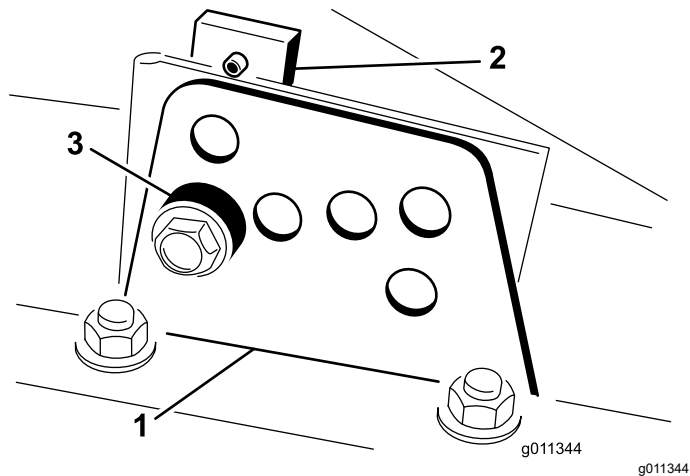

Figure 22
2. Loosen the bolt securing each height-of-cut bracket to the height-of-cut plate (front and each side) as shown in Figure 22.
4. While supporting the chamber, remove the spacer (Figure 22).